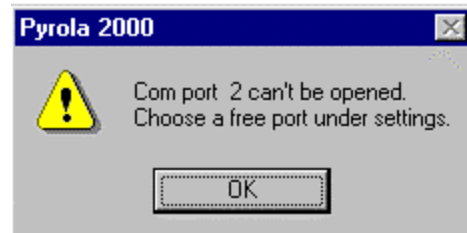

Figure 3-2
- Check that the communication cable between the control unit and the computer has been connected properly, see Figure 3-2.